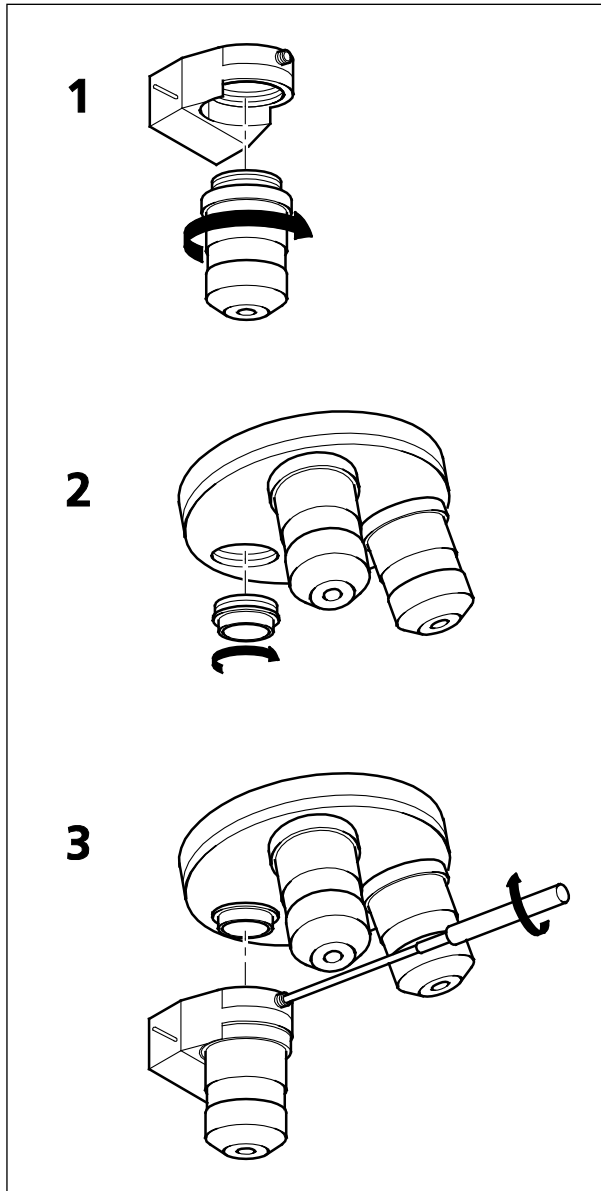

Fig. 3 Installation of the Piezo Objective Focusing Device
- Screw in your microscope objective into Piezo Objective Focusing Device (see Fig. 3/1).
- Screw the thread-ring into your microscope (see Fig. 3/2).
- Easy clamp the Piezo Objective Focusing Device on the thread-ring (see Fig. 3/3).